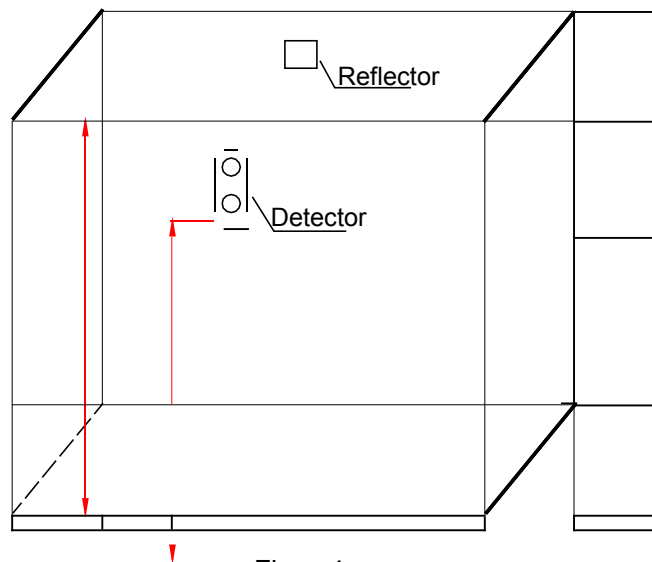

Fig. 4
- a) When space height is not over 5m, the detector and reflector should be mounted on the two facing walls 0.5m from the ceiling, see Fig. 4.